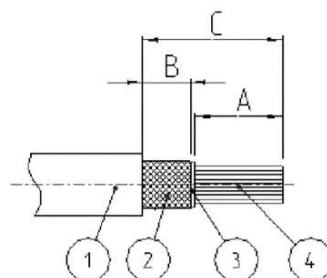

Figure 5 Cutting cable to length
Step 2/步骤二 Strip and remove outer sheath, screening braid (if present screening foil), inner sheath and conductor from the end as shown in figure 5.
如图5所示, 切开并去除外绝缘皮, 屏蔽编织物 (如果存在屏蔽箔), 内绝缘皮和导体。